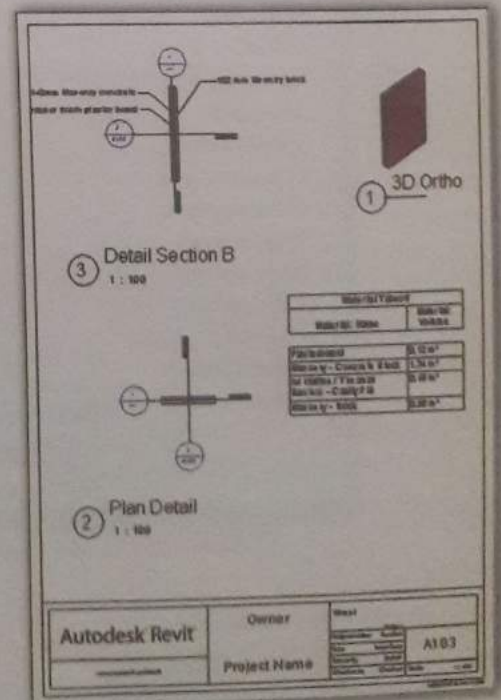

Figure 105: Assembly on Sheet
3. Move the cursor to position the outline as desired, and then click to place the view on the sheet (Figure 105).